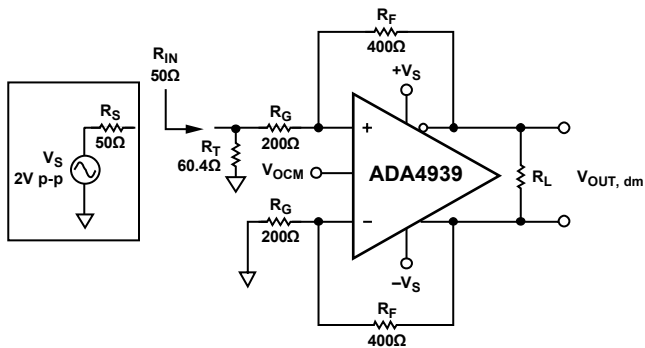

Figure 47. Adding Termination Resistor R_T
- It can be seen from Figure 47 that the effective R_G in the upper feedback loop is now greater than the R_G in the lower loop due to the addition of the termination resistors. To compensate for the imbalance of the gain resistors, a correction resistor (R_{TS}) is added in series with R_G in the lower loop. R_{TS} is equal to the Thevenin equivalent of the source resistance R_S and the termination resistance R_T and is equal to $R_S || R_T$.